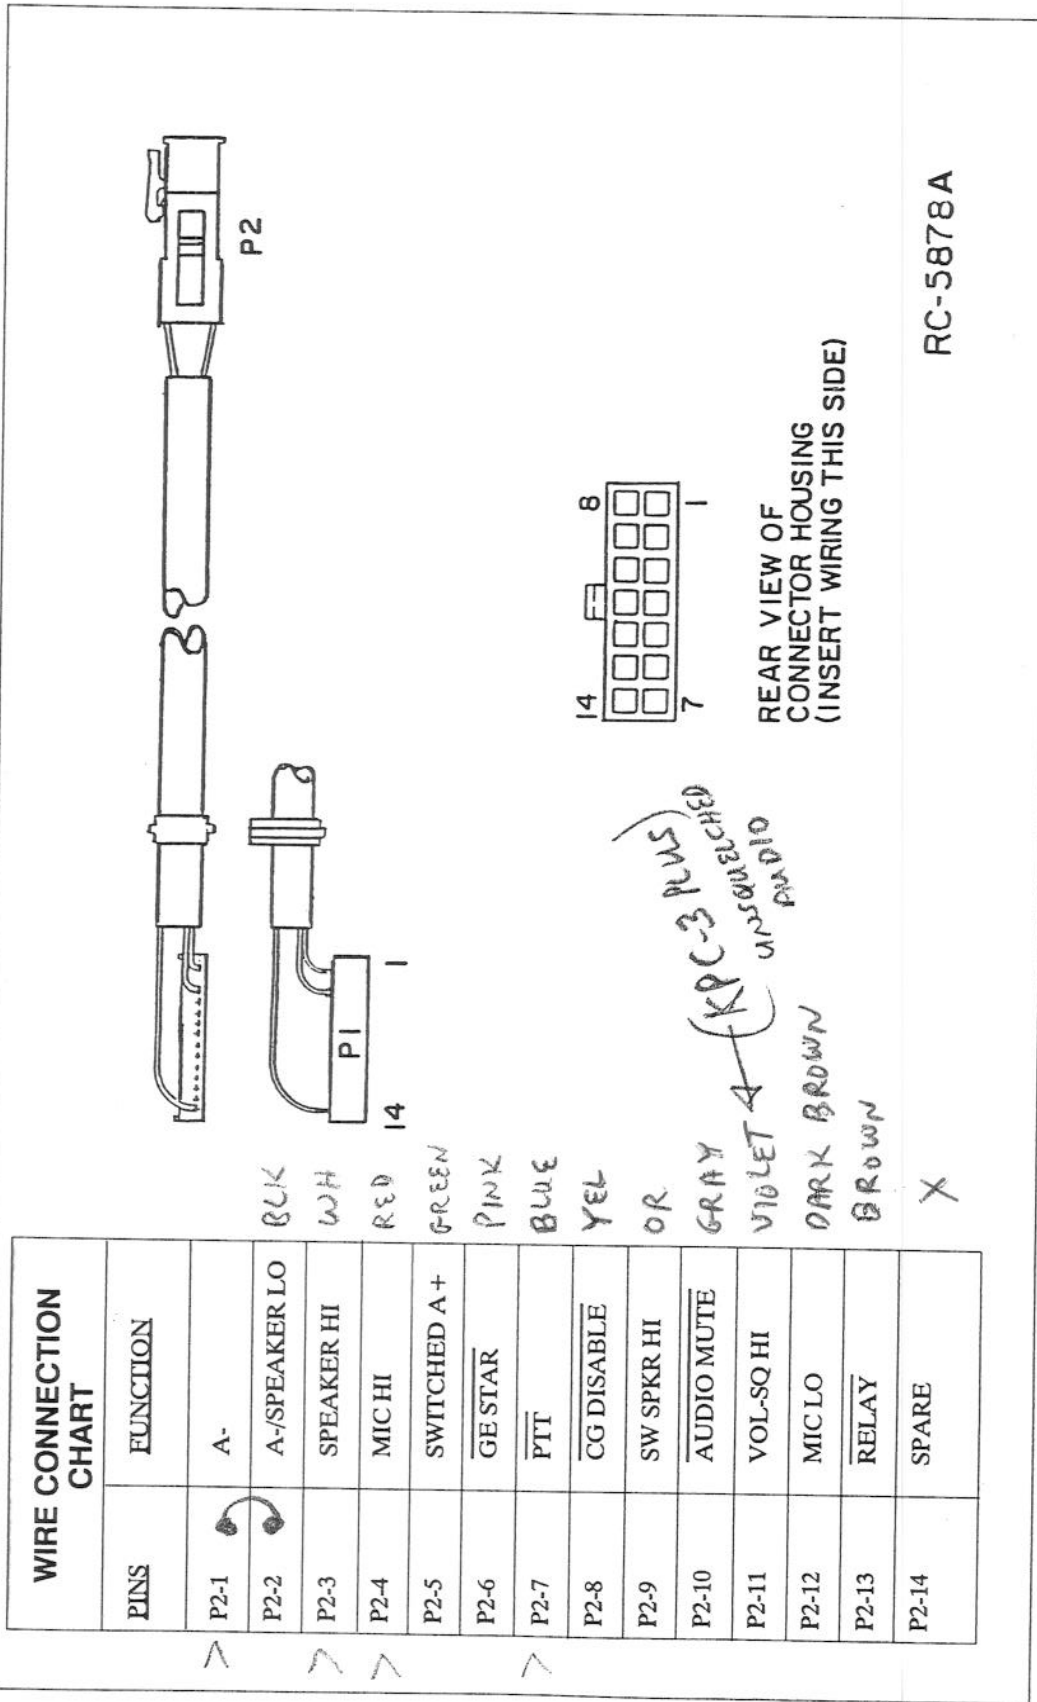

FIGURE 14 - OPTION CABLE PIN LOCATIONS
The Option Cable brings all option connections from the System Board through the back of the radio to the outside. This cable is required with all external options (except the Remote Mount Option). Supplied with the Option Cable is the empty connector housing which plugs into P2 of the Option Cable. Pins supplied on the ends of the wires of each option (Molex #39-00-0060) are inserted into this connector housing. Refer to the Interconnection Diagram in the back of this manual. See Figure 14 for pin locations.
4. Pins are supplied on the ends of the speaker leads. Push these pins into pins 2 and 9 of the connector housing supplied with the Option Cable. Refer to Figure 14.